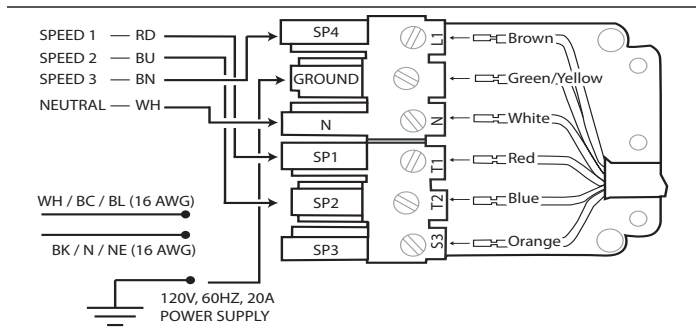

Figure 14: Wiring the Hood with an Inline Blower
8. Run five (5) wires (#14 AWG) in 1" (25.4 mm) conduit from the inline blower to the second conduit connector.
9. Connect the inline blower to the pigtail wires as per *Figure 14*. Connect the inline blower green (ground) wire to the ground screw in the junction box.